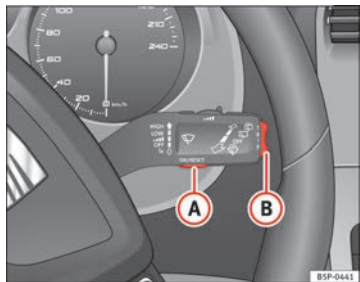
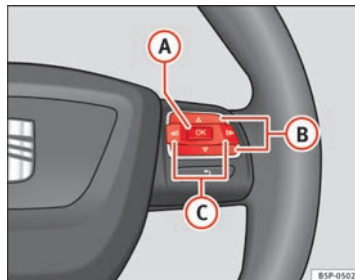

Fig. 45 Windscreen wiper lever: button A to confirm the menu selection and rocker switch B to change the menu
Fig. 46 Steering wheel controls: button A to confirm the menu selection and switch B to change the menu
- To access the “Configuration” menu, press button **C** ⇒ Fig. 46 until the menu is displayed. Now you are in this menu.
- To change from one memory to another, briefly press button **(A)** → Fig. 45 → page 68 on the windscreen wiper lever or the **(OK)** button on the multifunction steering wheel → Fig. 46 → page 68 while the ignition is switched on.
The following data can be viewed on the multifunction display using the rocker switch **(B)** → Fig. 45 → page 68 on the windscreen wiper lever or by pressing button **(Δ)** or **(▽)** → Fig. 46 on the multifunction steering wheel*.
- Press button **B** or **V** on the multifunction steering wheel* ⇒ Fig. 46 until the **Vehicle Status** menu is displayed.